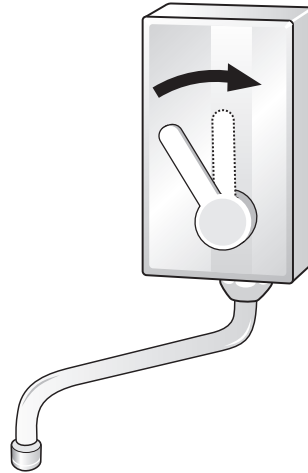

Fig. 4b
- Water temperature can be decreased by mixing cold water with hot water by turning the knob of the stirring head to the right (fig. 4b).